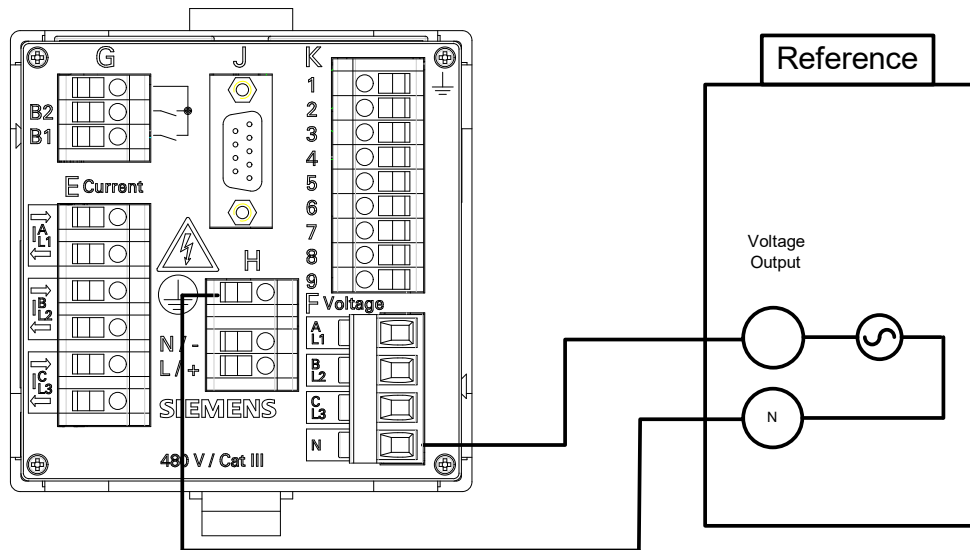
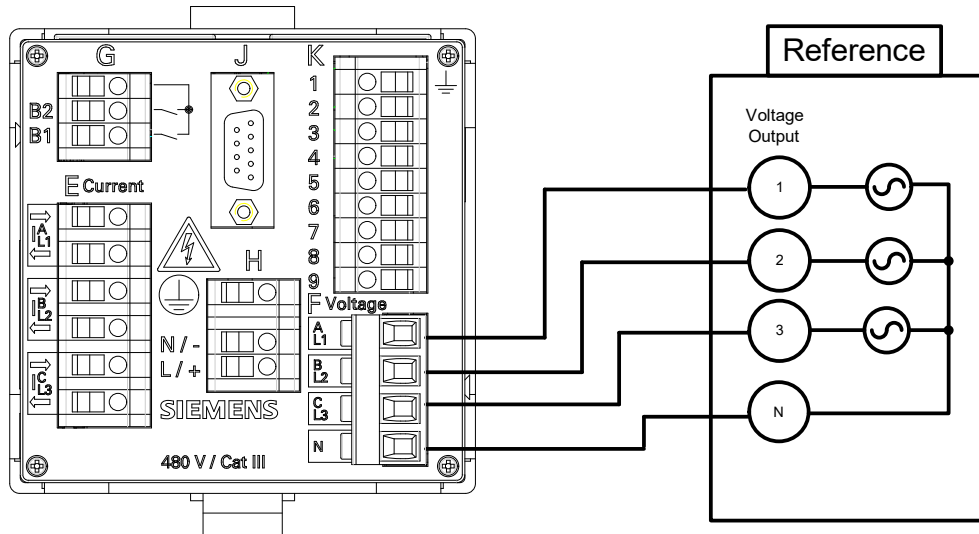

Fig. 10-7 Measurement Setup for Calibrating VN
Fig. 10-10 Measurement Setup for Calibrating VN
- ✦ Set up the measurement as shown in figure 10-7 or figure 10-10, acc. to device version.
- ◇ Set up the measurement as shown in figure 10-10.